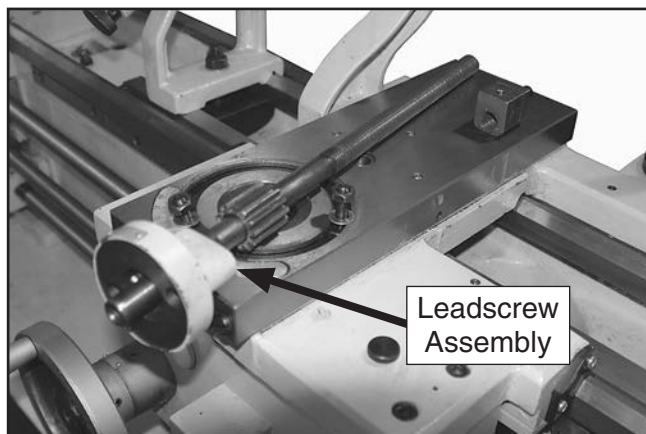

Figure 9. Cross slide leadscrew assembly removed.
9. Pull the handwheel bracket and leadscrew assembly from the front of the cross slide (see **Figure 9**).